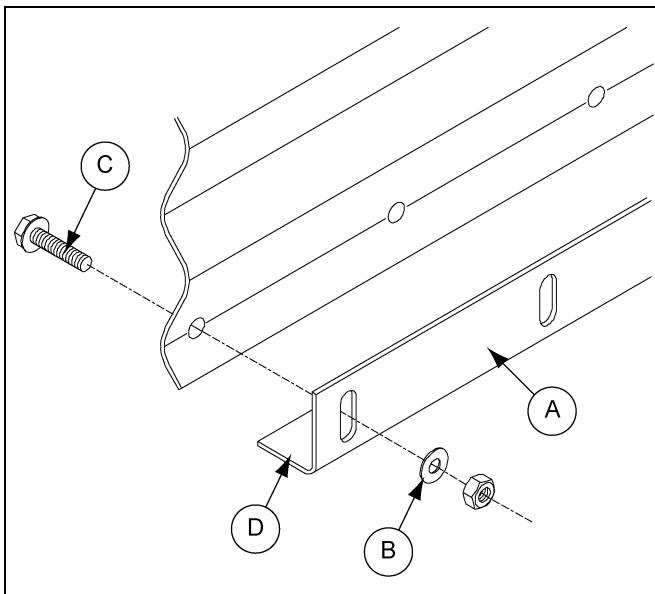

Figure 4J
A bolt on the base angle is standard on 8 gauge unstiffened base ring sheets and all Farm-Com base rings. Install base angle on 8 gauge base ring as shown in Figure 4J below.
- To the lower edge of the 8 gauge bottom ring, attach the base angle. Bolt on the base angle where applicable. Before lowering the bin, apply mastic sealer to the entire underneath side of the base angle. (See Figure 4J.)